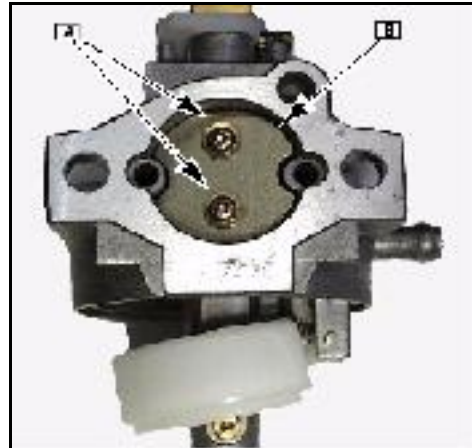

Fig. 32
9. Remove screws (A) holding choke plate ([B] Fig. 32) and remove.